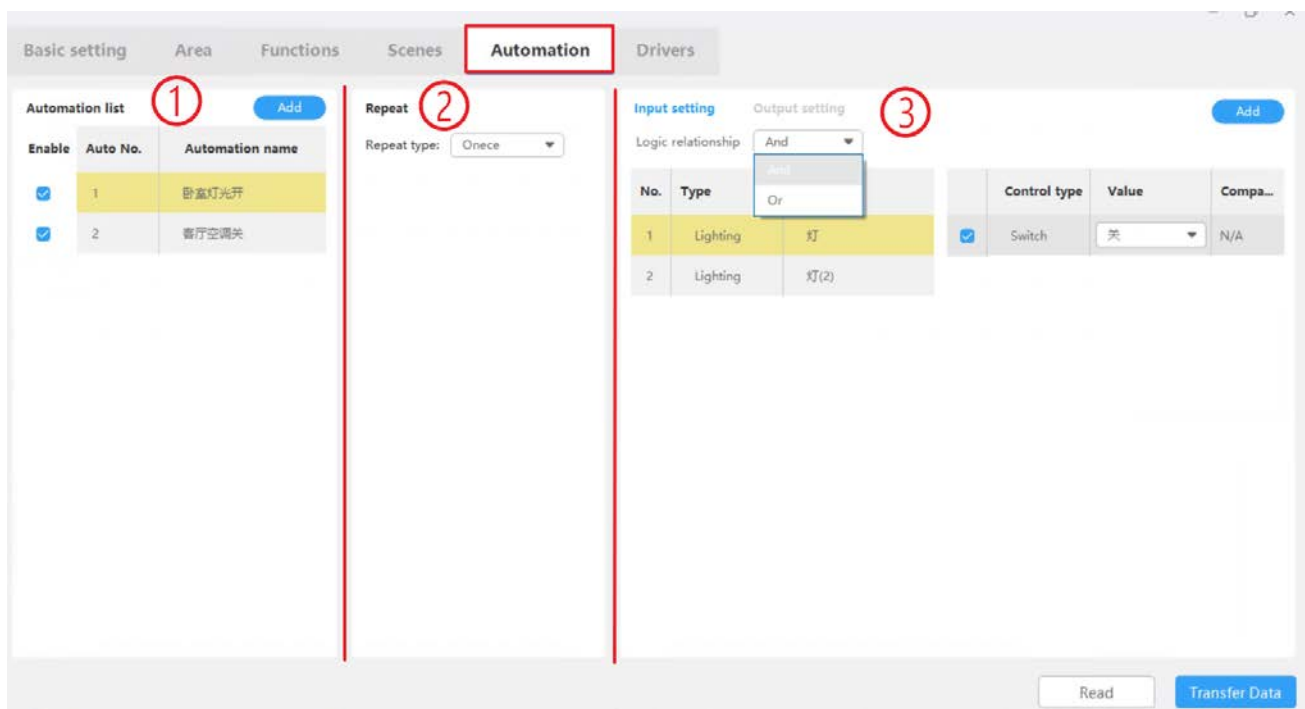
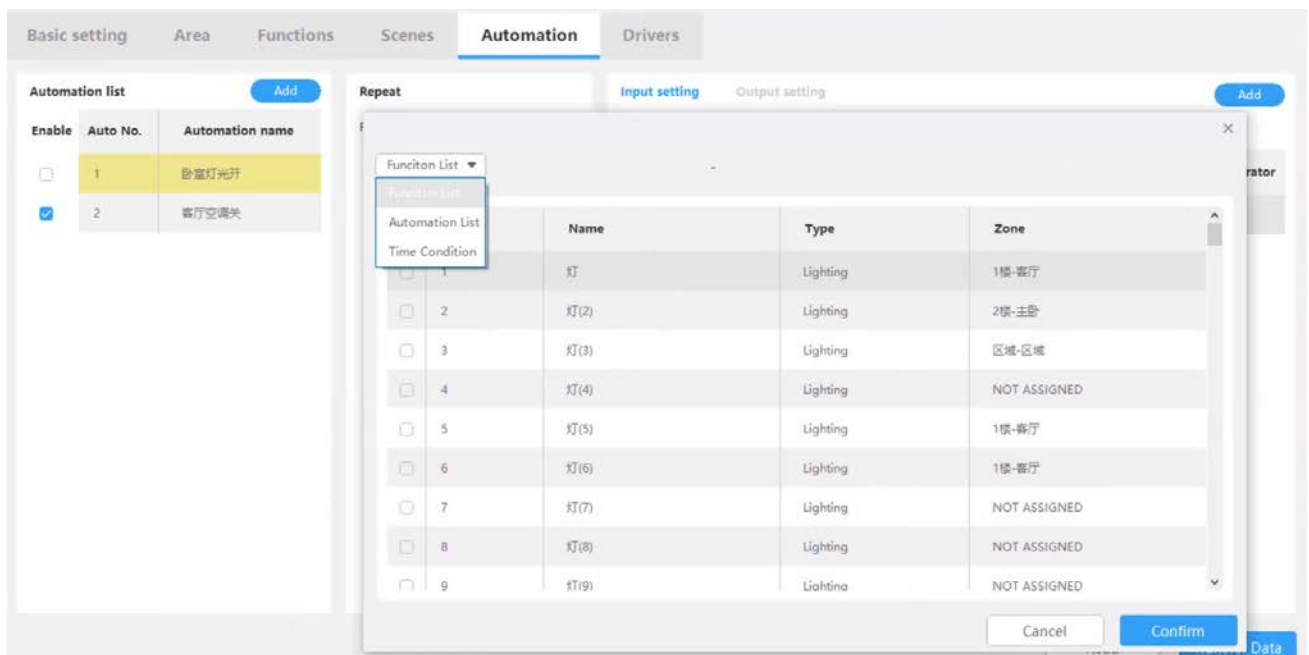

Figure 7-1 Automation Setting
Figure 7-2 Input/Output Setting
As shown in Figure 7-1, click “Automation” in configuration page to check and proceed settings. The detailed steps can be referred as the followings:
- ① Automation List: As shown in Figure 7-1, click “Add” to create automation and revise its name as needed, e.g., “bedroom light On”; you can also enable/disable this automation.
- ② Repeat: As shown in Figure 7-1, you can select the repeat types, including once, every year, every month, every day, week, custom.
- ③ Click “Input Setting” or “Output Setting” → “Add” and then proceed configuration. As the type varies in “Input Setting” or “Output Setting”, here we take the type in “Input Setting” as an example:
- As shown in Figure 7-2, select the automation target from “Function List”, “Automation List” or “Time Condition”, e.g., select No.2 Lighting and click “Confirm” to complete adding.
- As shown in Figure 7-1, select the automation relation:
- As shown in Figure 7-1, select the automation control type, e.g., set the lighting switch as “Off”.